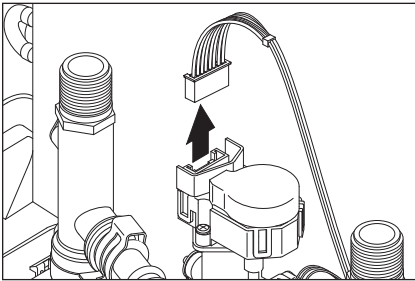

Figure 112 - Disconnecting 8 Pin Wire Harness
- 12** Disconnect the 8 pin wire harness located on top of Smart Valve as shown in Figure 112. Place wires aside in a safe location so they are not damaged.